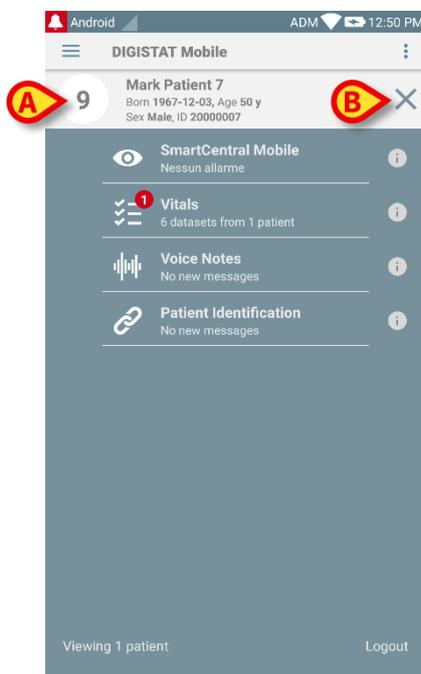

Fig 29
The patient will be this way selected (Fig 29).
Patient data are on top of the page (Fig 29 **A**). All the data in all the DIGISTAT® Mobile modules are now filtered by patient (i.e. all and only the selected patient alarms/notifications are displayed).
- Touch the cross indicated in Fig 29 **B** to deselect the patient and turn to “All Patients” mode again.
The patient will be this way selected. The screen shown in Fig 29 (example) will be displayed.
The patient will be this way selected. The screen shown in Fig 29 will be displayed.